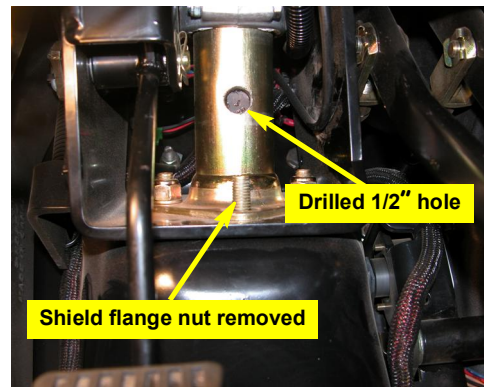

Figure 1c: Drilled shaft shield and installed magnets
- c. Remove the bottom steering shaft shield flange nut. Using the bent sensor arm as a template, drill a 1/2" hole in the steering shaft shield (Figure 1c).